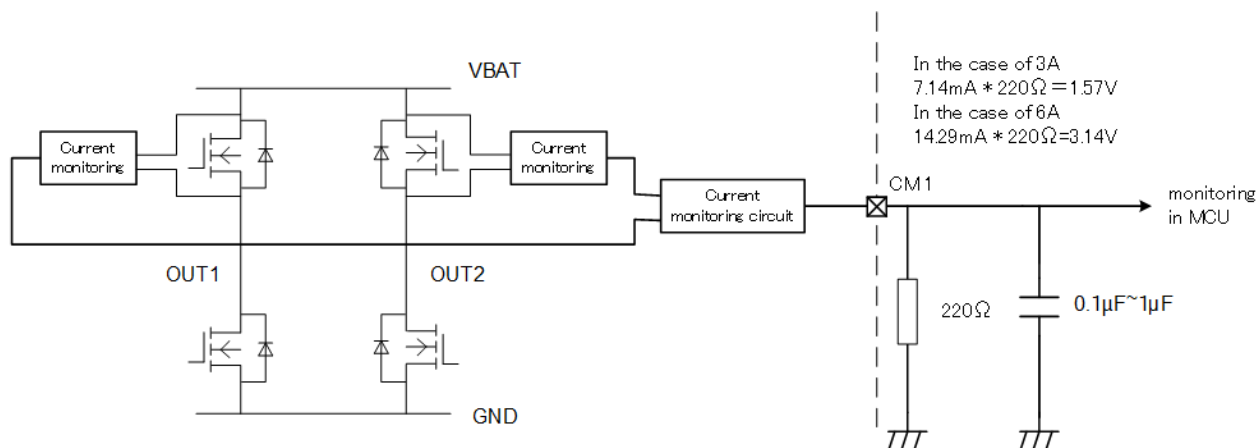
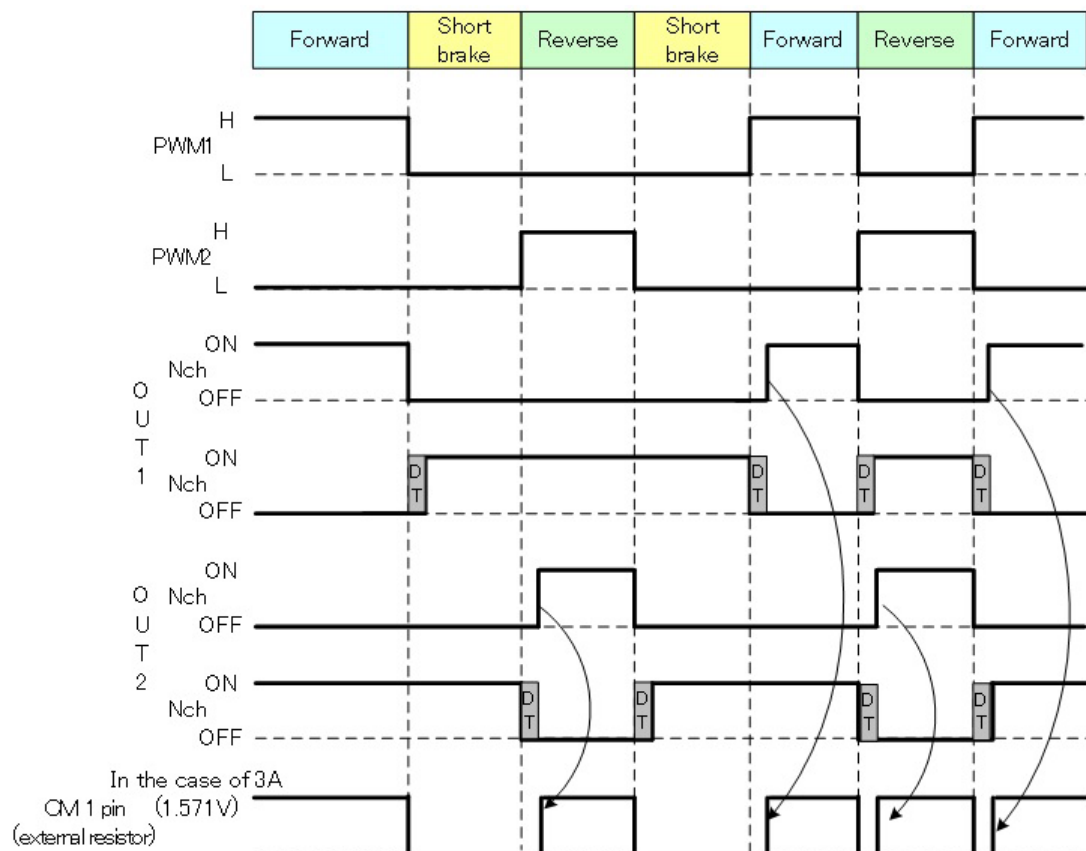
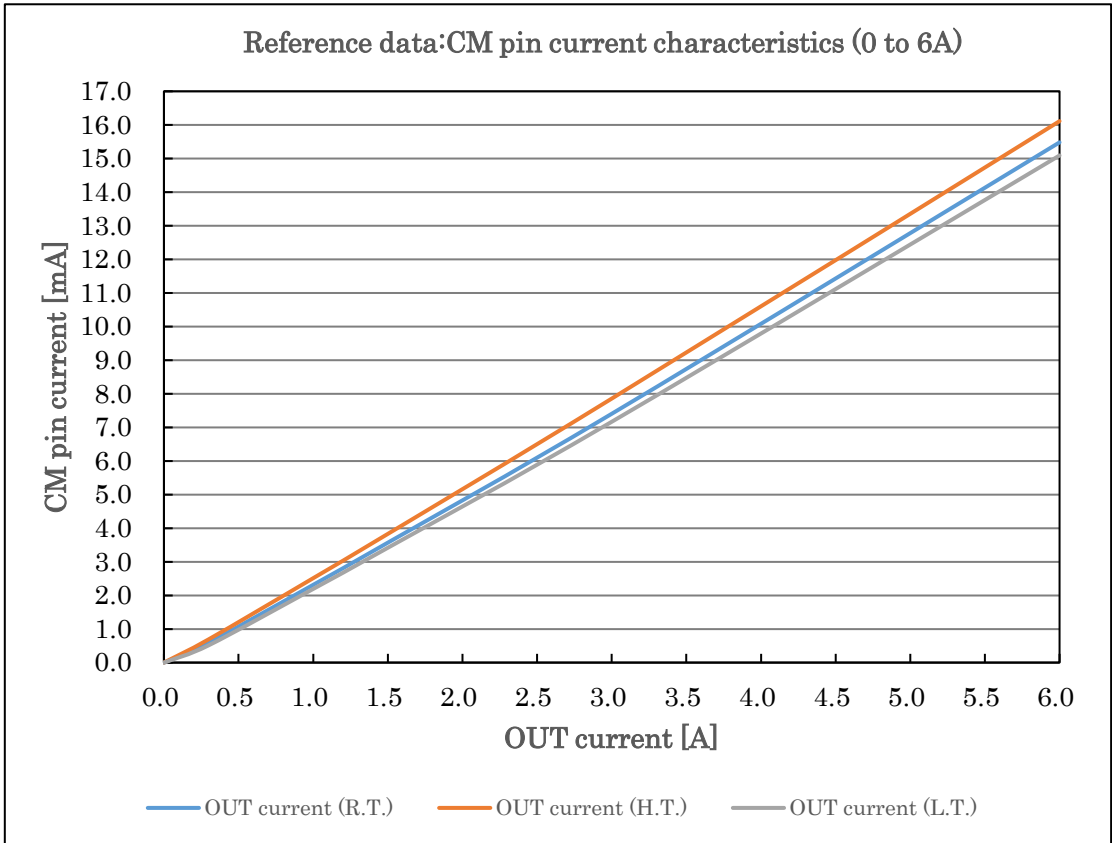
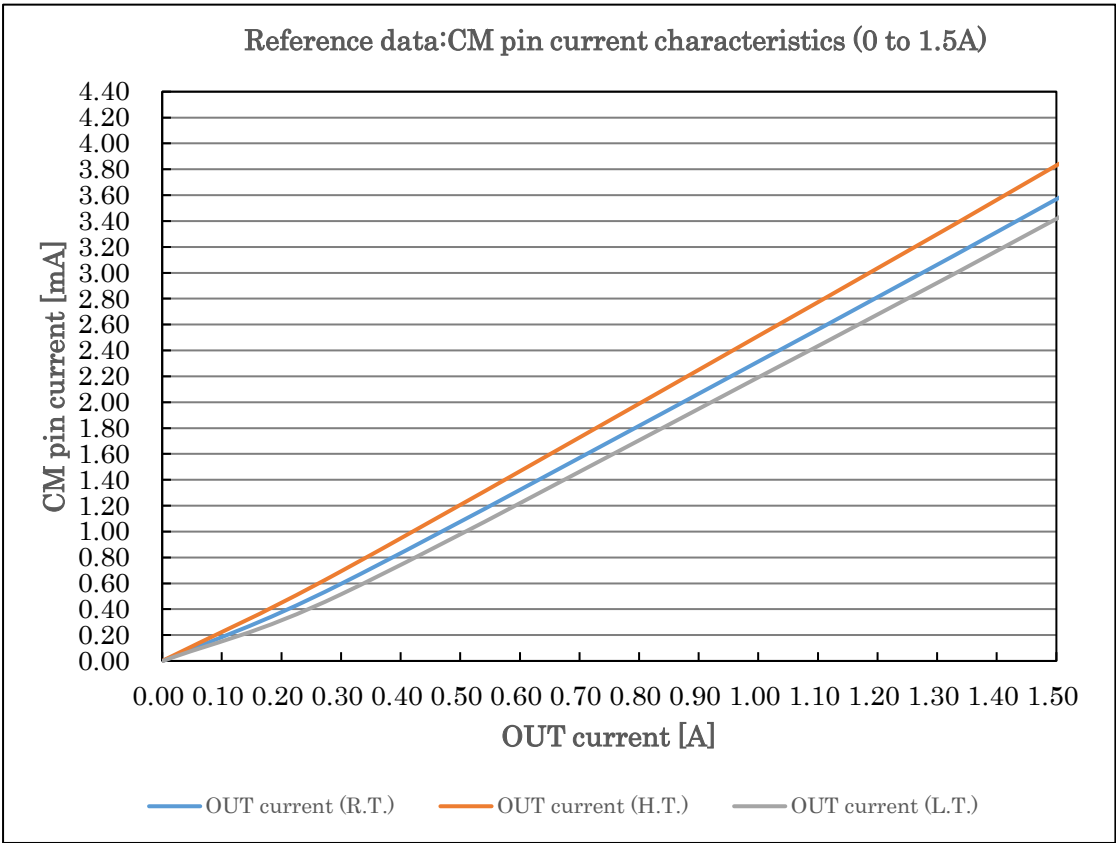

Figure 7.18 High-side current monitoring configuration
Figure 7.19 High-side current monitoring timing chart
Figure 7.20 CM pin current vs. OUT current characteristics (0 to 6A)
Figure 7.21 CM pin current vs. OUT current characteristics (0 to 1.5A)
7.8. High-side current monitoring: CM pin (Figure 7.18, Figure 7.19, Figure 7.20, Figure 7.21)